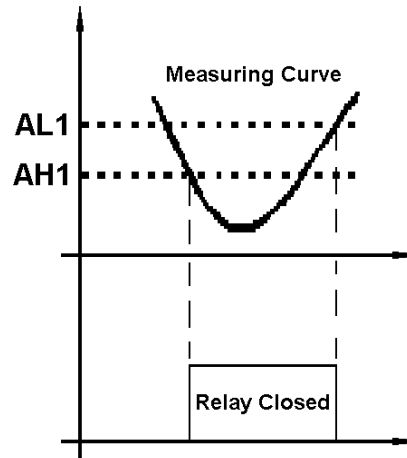

Figure 5
- c) Set AH1 < AL1: Normally used for lower limit alarm trigger. See Figure 5.